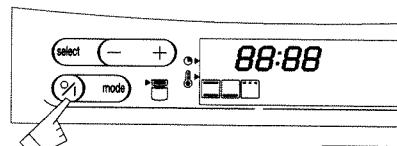

Fig. 1
1. Press the touch control (fig. 1). All the functions are displayed and flash.